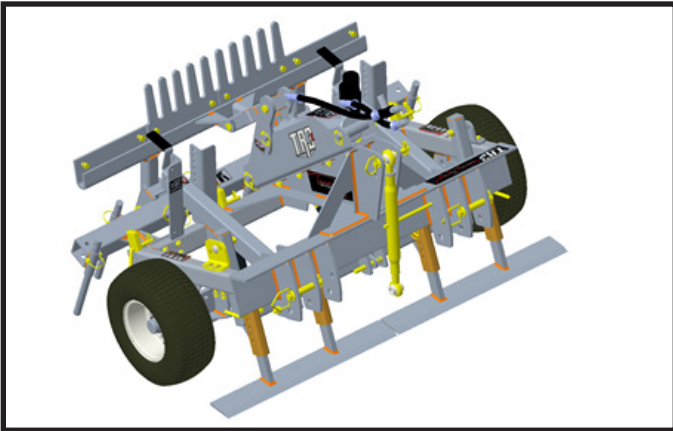
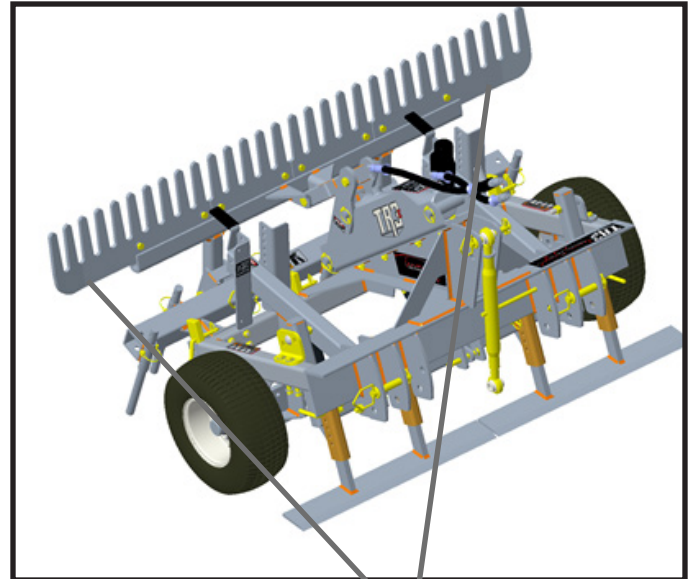
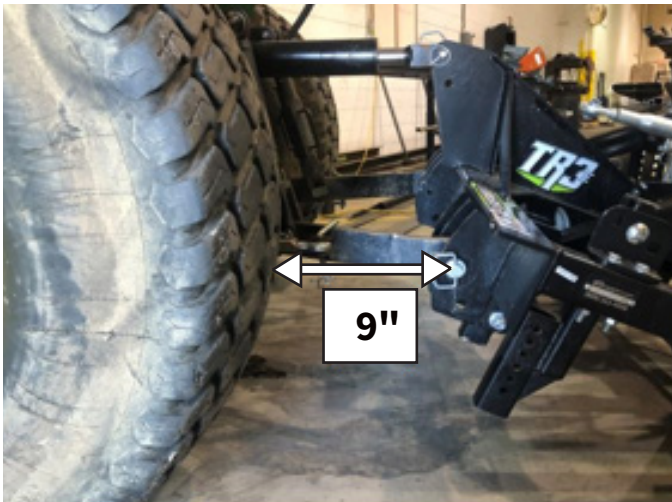

Figure 4.
Figure 5.
Figure 6.
1. For Units that are shipped with outer Rake sections removed (as shown in **Figure 4**), remove bolts and nuts (3/4" Hex) from Rake support bracket. Set End Rake sections on Rake support bracket and re-insert bolts and nuts and tighten (see **Figure 5**). Bent ends of Rake Sections are to be angled upwards (see **Figure 6**).